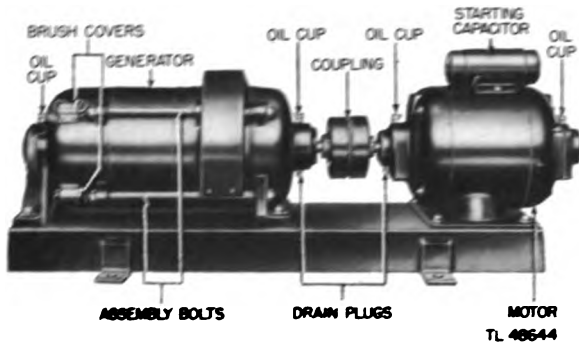

Figure 4-20. Amplidyne.
b. **Maintenance Procedure** (figs. 4-20 and 4-21).